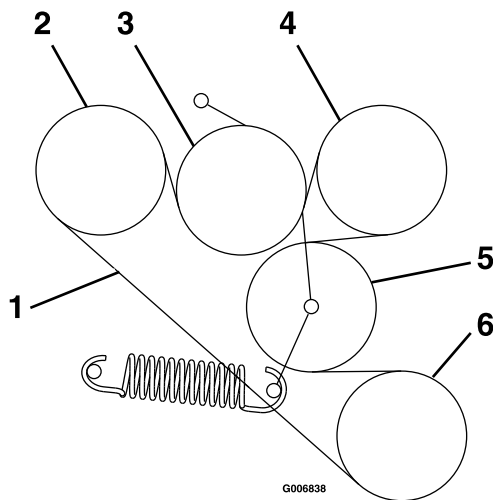

Figure 51
6. Route the new belt onto the sheaves as shown in the decal located on the back of the left drive shield (Figure 51).